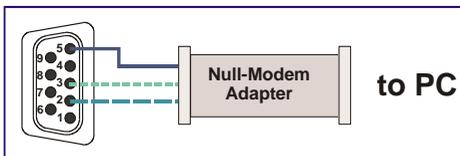

Figure 7: Straight Cable RS-232 Connection with a Null Modem Adapter
**Method B** (Figure 7)—Connect the RS-232 9-pin D-sub port on the unit via a straight (flat) cable to the null-modem adapter, and connect the null-modem adapter to the RS-232 9-pin D-sub port on the PC. The straight cable usually contains all nine wires for a full connection of the D-sub connector. Because the null-modem adapter (which already includes the flow control jumpering described in Method A above) only requires pins 2, 3 and 5 to be connected, you are free to decide whether to connect only these 3 pins or all 9 pins.